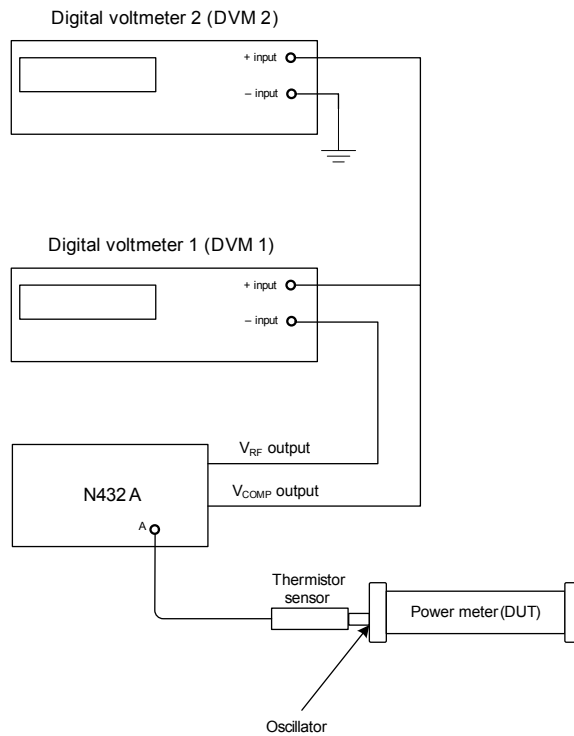

Figure 2-46 Connection diagram for VSWR measurement
- 22** Now, set up the connections shown in Figure 2-46. Connect the N432A rear panel V_{RF} output connector to the negative input lead of DVM 1. Connect the N432A rear panel V_{COMP} output connector to the positive input leads of both DVMs.
- 29** Now, set the N432A bridge resistance to 100 Ω . Again, set up the connections shown in Figure 2-46.